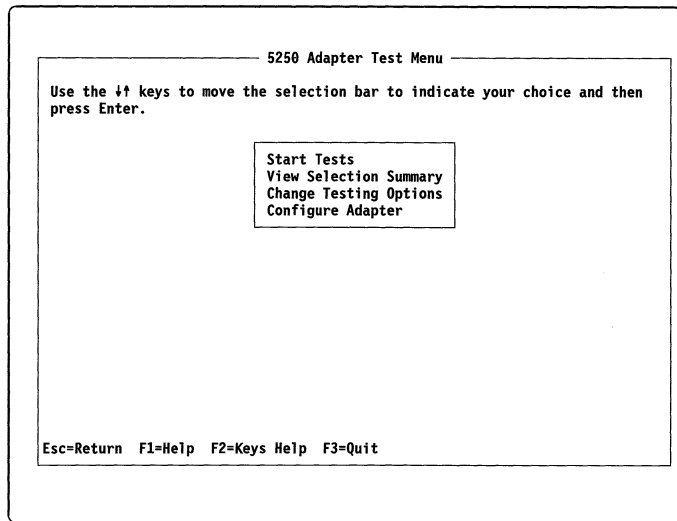

Figure 9. 5250 Emulation Adapter Test Menu
7. Press Esc to return to the 5250 Emulation Adapter Test Menu, similar to the one which is shown in Figure 9.